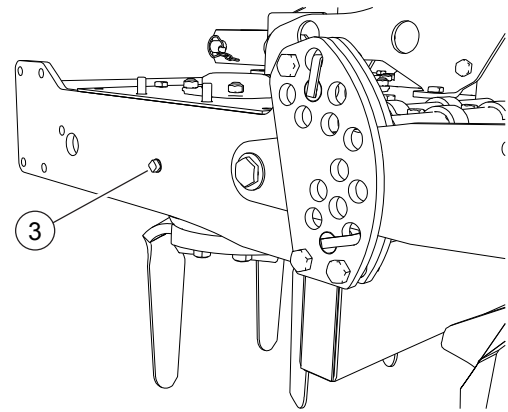

FIG. 29
- Place a basin under the oil drain plug (3, “Fig. 29”).